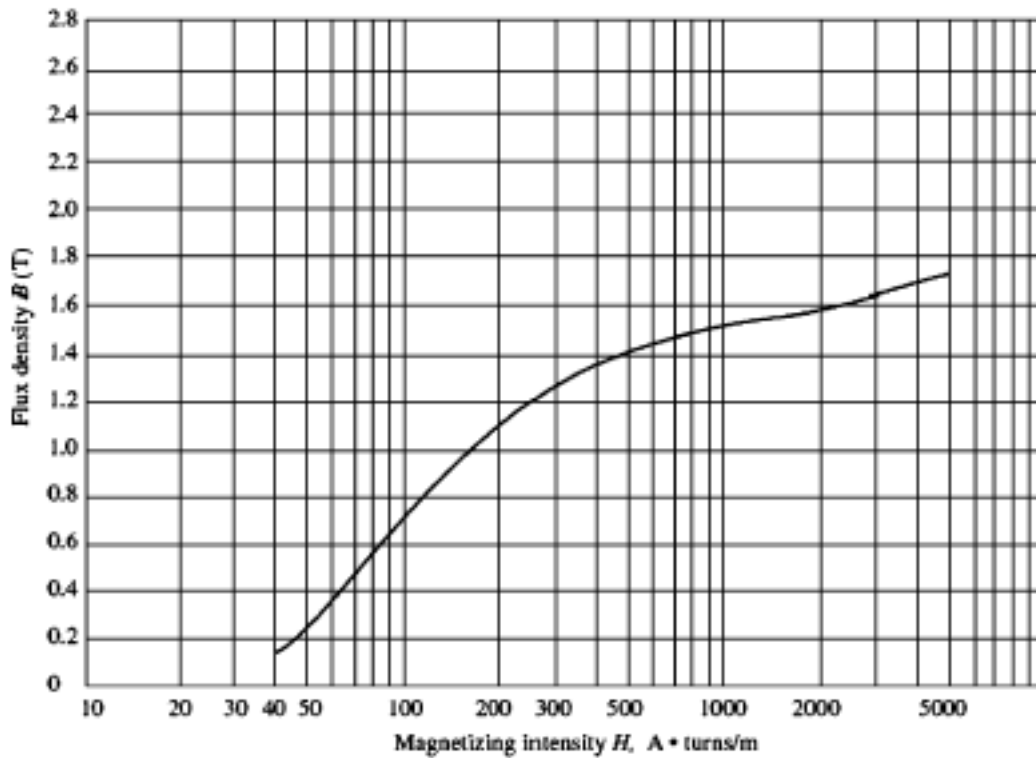

Figure 4
**Problem 4: (a)** A magnetization curve of the typical ferromagnetic material is shown in Figure 4. Find the relative permeability of the material at: